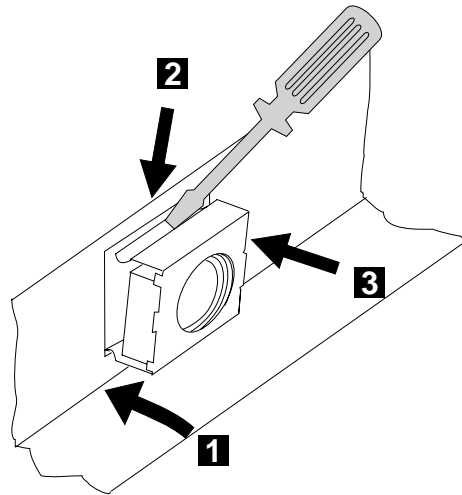

Figure 1-9. Installing the Captive Nuts
10. ____ Refer to Figure 1-9, and **install** (if necessary) the two captive nuts (PN 58G5766).